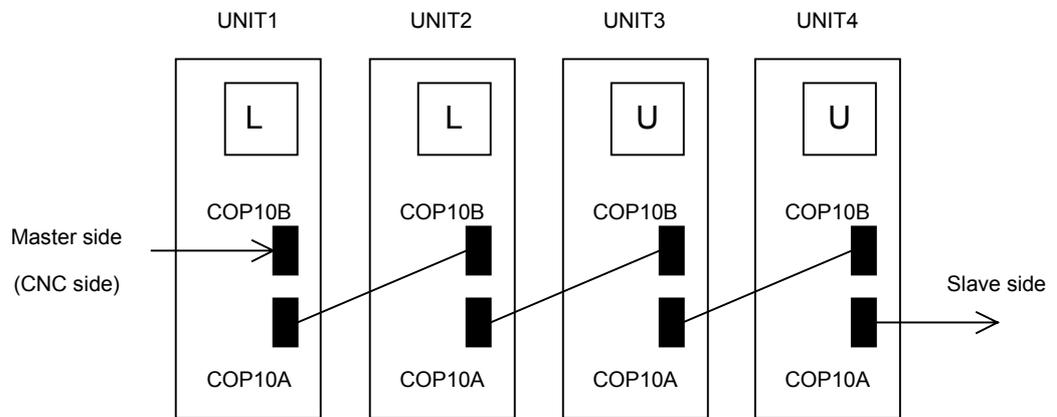

Fig. 3.2.12
(2) Cause and troubleshooting
- (a) Replace the SVM optical cable (COP10B) that is nearest to the CNC on which "U" is displayed (in Fig. 3.2.12, the cable between UNIT2 and UNIT3).
- (b) Replace the SVM that is nearest to the CNC on which "U" is displayed (in Fig. 3.2.12, UNIT3).
- (c) Replace the COP10B-side SVM that is nearest to the CNC on which "U" is displayed (in Fig. 3.2.12, UNIT2).